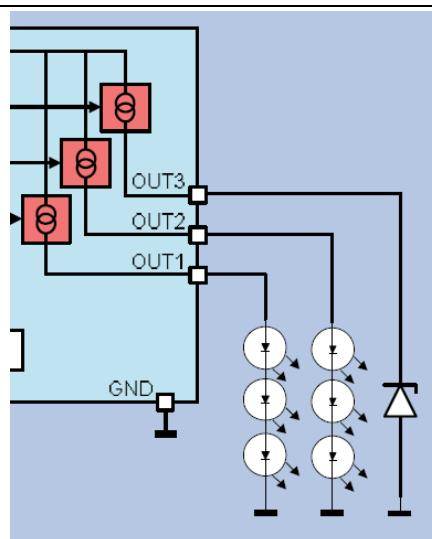

Figure 4 Connection of unused outputs via zener diode (TLD1313 and TLD1314 only)
- Devices with N-1 detection, but no short circuit (SC) to ground diagnosis (TLD1326, TLD1311 and TLD1315), the outputs can be connected to ground, as these devices disable a shorted channel.
- The TLD1313 and TLD1314 must have the unused outputs connected via a zener diode as shown in Figure 4 to avoid shutdown due to open load detection if left open. Open load is triggered when the voltage difference between the supply and the output is too low and below the threshold  $V_{PS(OL)}$ , and short circuit to ground diagnosis if connected to ground. The clamping voltage of the zener diode should be in the range of the total LED forward voltage on the used channels. The voltage on any output (either with LED's or zener diode) must be 2.5V or greater to ensure proper operation.